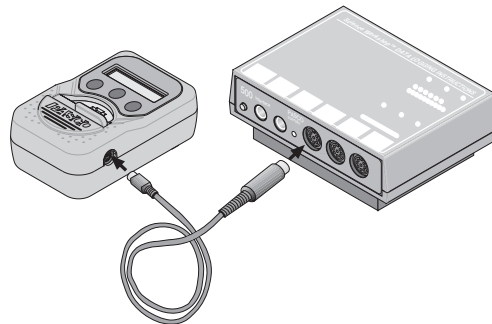

Figure 1
- The sensor's connector cable has a mini-DIN plug at one end and a regular DIN plug at the other. Plug the mini-DIN end of the cable into the sensor and then connect the other end of the cable into **Analog Channel A** on the interface. See Figure 1.